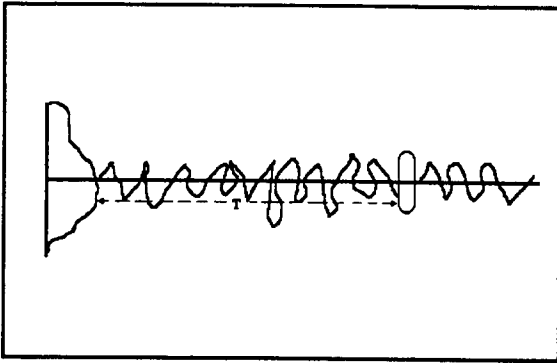

Figure 2-2. False Detect Pulses.
- f. If this noise is large enough it can cause false detect pulses, and possibly make the real echo impossible to see (Figure 2-2). In this case check the wiring connections to the sensor for corrosion or poor connections. This noise can also be injected if the coaxial cable from the sensor run too closely to AC power lines. Insure the coax is run in it's own dedicated conduit.